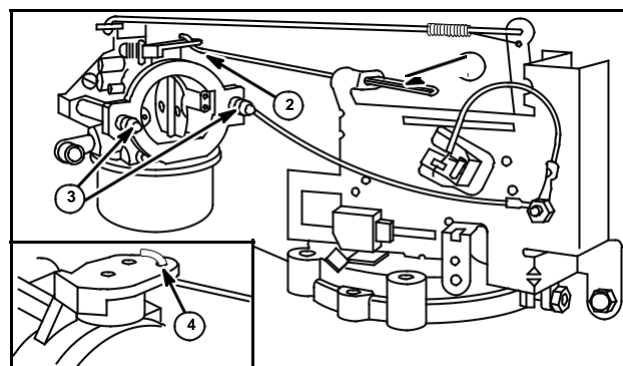

Fig. 119
1. Insert "Z" bend of link (2) in outer hole of choke lever from bottom of lever (4).
2. Slide "U" bend of link (1) into slot on governor control bracket and place carburetor on intake elbow.
3. Torque studs(3) to 65 in. lbs. (7 Nm), Fig. 119.